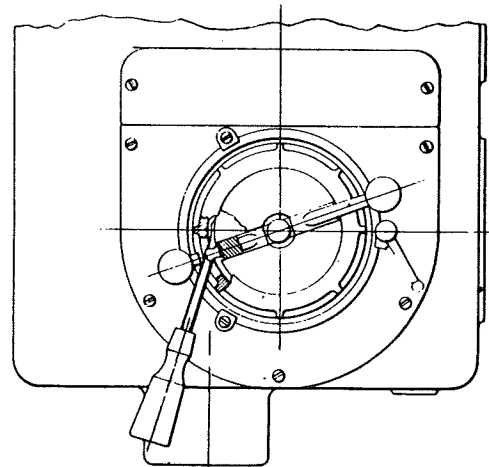

Fig. 27
7. Wedge a screw driver behind one of the quick-return levers (as shown in Fig. 27) to prevent the quick-return clutch from becoming disengaged. Caution: Do not remove this screw driver until the spindle has been replaced and the jam nut has been tightened.